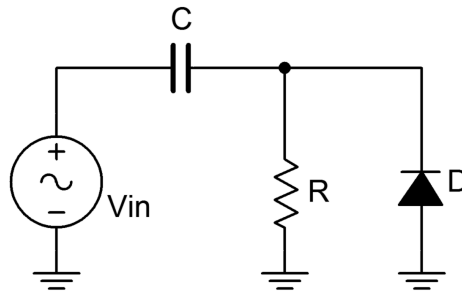

Figure 2
4. Consider the circuit of Figure 2 using $V_{in} = 5$ volts peak at 1 kHz, $R = 100$ k Ω and $C = 100$ nF. Determine the input signal's period and the RC time constant. Record these values in Table 2. For a large time constant, the capacitor voltage can be thought of as stable, basically a DC voltage. Initially, this voltage is zero. On the positive input half-wave, the diode is reverse biased and all of the signal drops across the resistor. On negative portions though, the diode is forward biased, limiting the output voltage to within one diode drop of ground. Also, the capacitor will begin to charge, eventually reaching the peak voltage of the input. This potential will add a DC offset to the input signal resulting in a clamped output.
5. Build the circuit of Figure 2 using $R = 100$ k Ω and $C = 100$ nF. Set V_{in} to a 5 volt peak sine at 1 kHz. Set the scope inputs to DC coupled and apply the probes to the input and output points. Record the positive and negative peak values of the output waveform in Table 3.